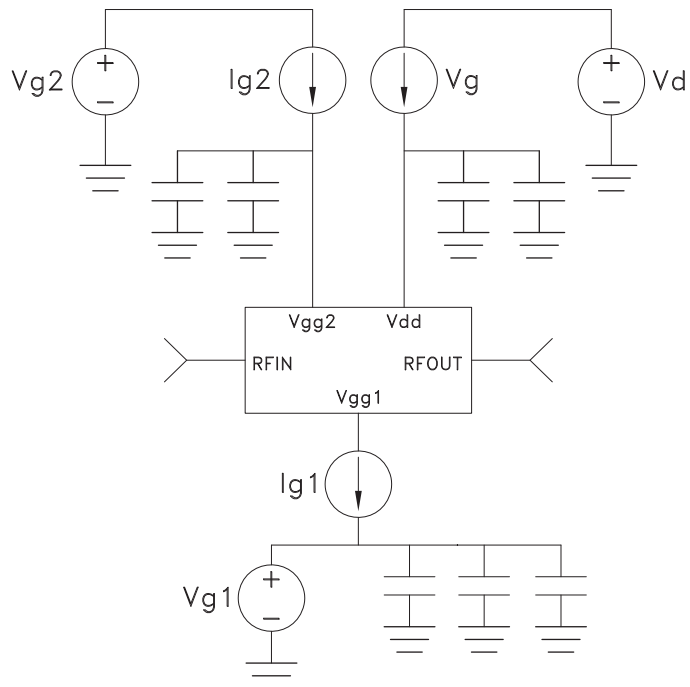

Figure 4 - Cascode Distributed Amplifier
1. The cascode distributed amplifier uses a fundamental cell of two FET's in series, source to drain. This fundamental cell is then duplicated a number of times. The major benefit is an increase in the operation bandwidth. Figure 4 shows a typical block schematic
3. Turn on all the power supplies and set for zero (0) volts - be sure to verify this by using a digital multi-meter. Measure the voltage between the plus and minus terminals of the power supplies since they are floating.